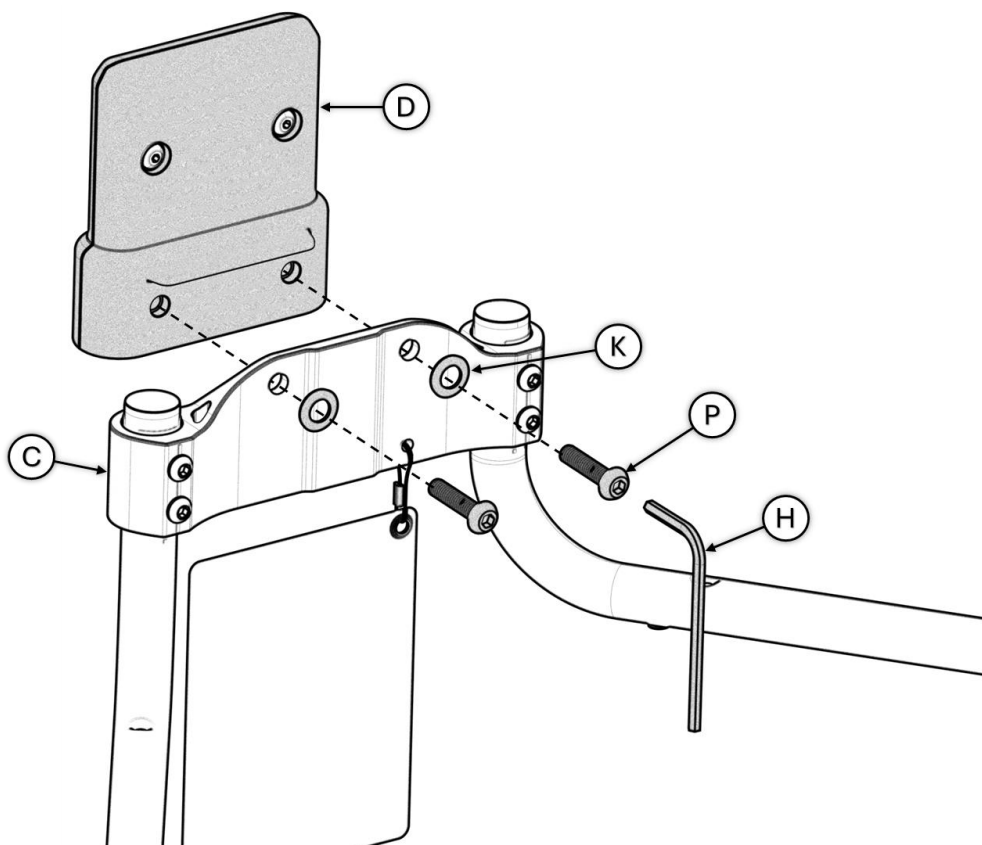

FIGURE 10
10. Insert Bolts **P** through Washers **K**, then Bracket **C**, then screw into Receiver **D**. Tighten firmly using Tool **H** as shown in, *FIGURE 10*.